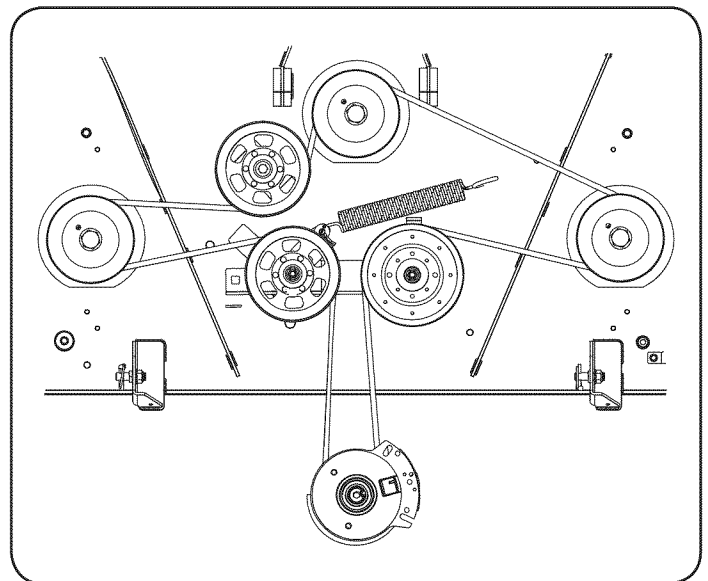

Figure 39
6. Place the belt around the idler pulleys removed in step 3 with the "V" side facing in. Once in place, reinstall all the hardware and tighten the flange lock nut to secure the assembly. See Figure 39.
7. Route the belt as shown in Figure 39 and then reinstall the deck (refer to Deck Installation).